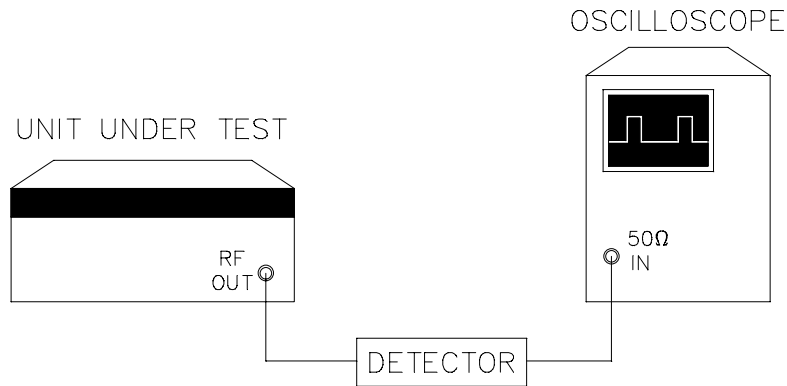

Figure 4-7. PM Overshoot and Settling Time
1. Connect the equipment as shown in Figure 4-7. The cable from the detector to the oscilloscope should be kept as short as possible.